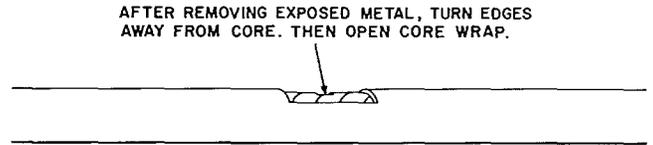

Fig. 8—Metal Removal at Valve Point
(2) Remove the underlying metal layers, taking care not to damage the core wrap. Carefully turn the metal edges away from the core wrap and remove any slivers. Then open the core wrap slightly (Fig. 8).